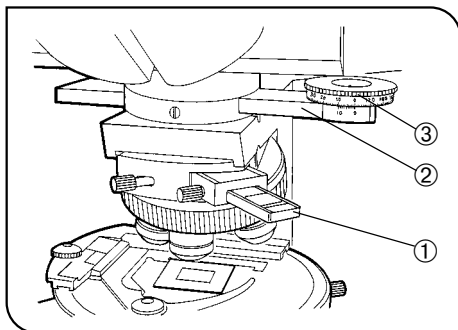

Fig. 19
**When Using the Intermediate Attachment for AN360P (U-OPA) (Figs. 19 & 20)**
1. Fully insert the alignment polarizer ①, provided with the U-OPA into the test plate adapter (U-TAD). Tighten its clamping knob. (Fig. 19)
3. Insert the rotatable analyzer (U-AN360P-2) ② into the analyzer slot on the intermediate attachment. Engage the analyzer, loosen the clamping screw and set the analyzer's rotation dial ③ to 0°. (Fig. 19)